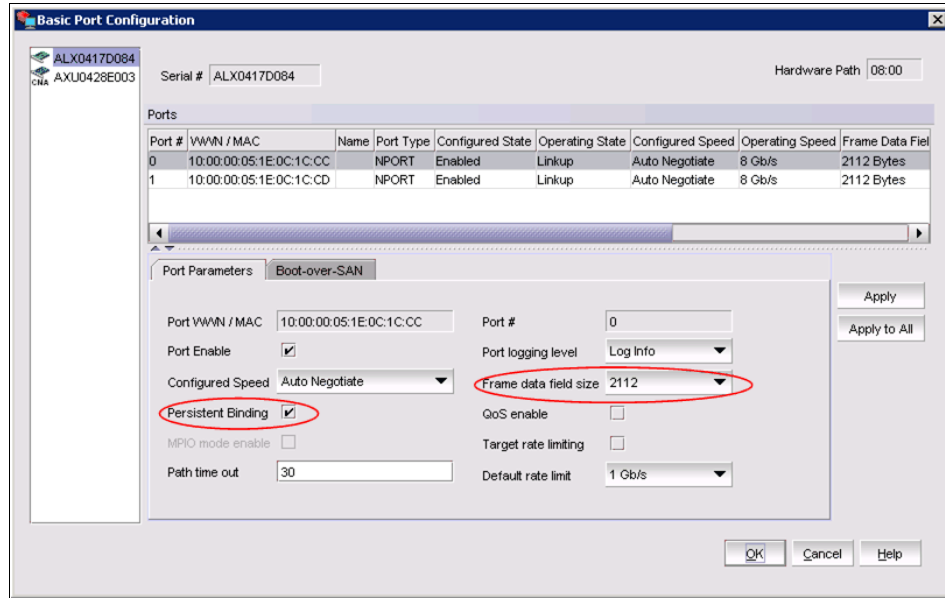

Figure 10-17 Basic Port Configuration dialog box, Frame Size and Persistent Binding
1. Select **Configure** → **Basic Port Configuration** from the Host Connectivity Manager, and the Basic Port Configuration dialog box displays (Figure 10-17 on page 429).
2. Check or uncheck the persistent binding check box in the Basic Port Configuration dialog (Figure 10-17).